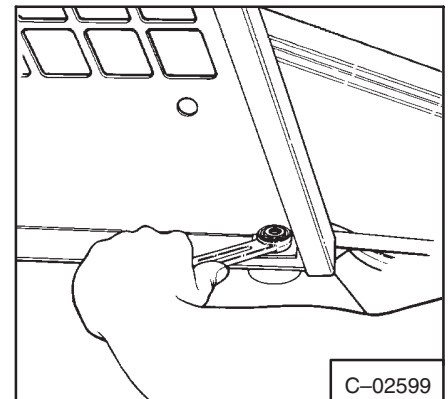

Fig. 5-2 Operator Guard Bolts
5. Remove the two bolt assemblies (including washers) at the front corners of the operator guard (Fig. 5-2).
6. Install the two nuts and washers (Fig. 5-2). Tighten the nuts 40-50 ft.-lbs. (54-69 Nm) torque.